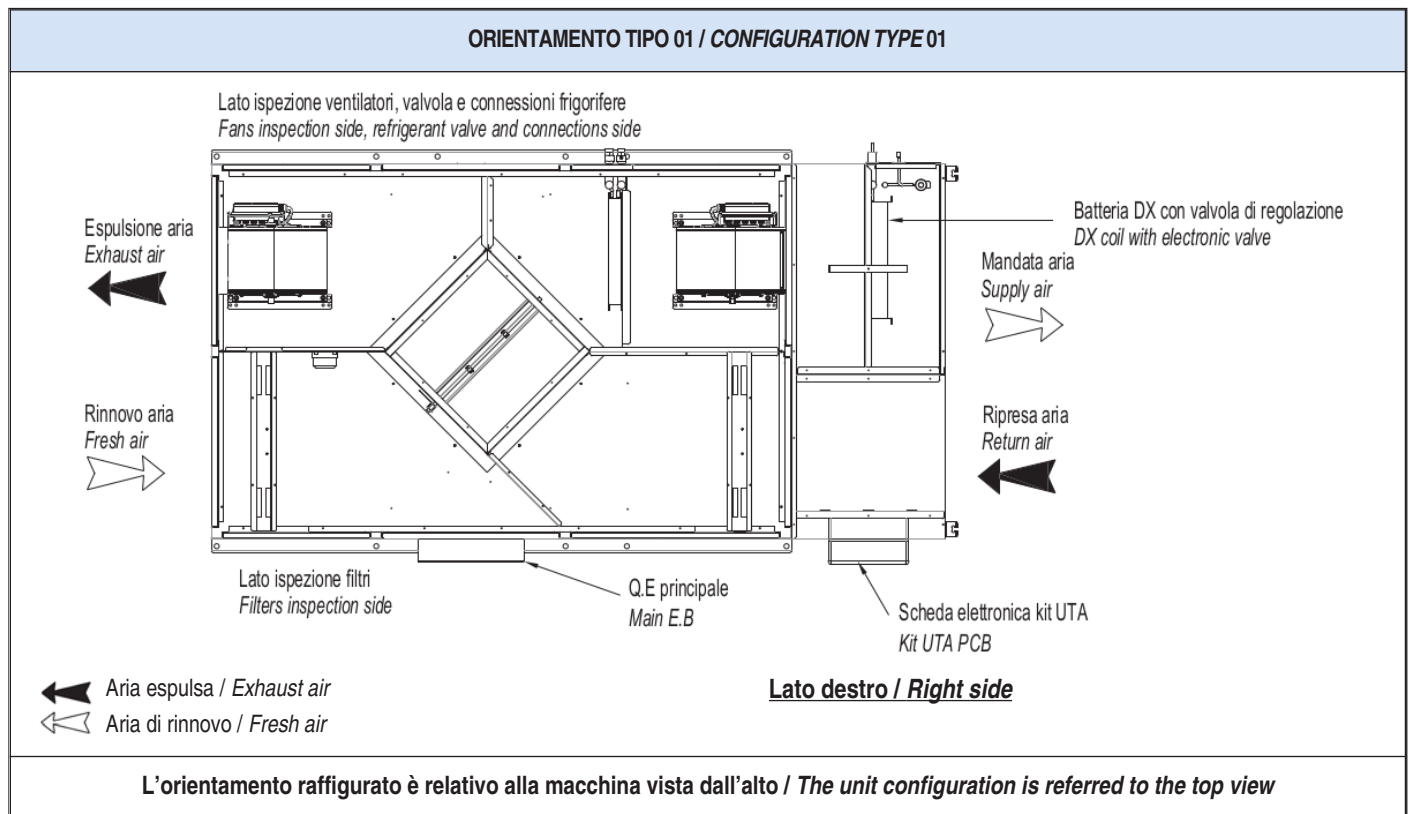

fig. 1
4.4 ORIENTAMENTO UNITÀ (FIG.1)
4.4 IMOT CONFIGURATION (FIG.1)